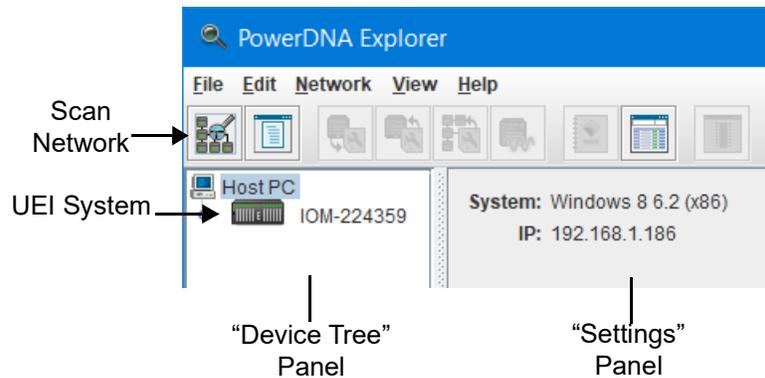

Figure 3-4 Initial Screen of PowerDNA Explorer (DNR-12-1G IOM shown)
STEP 4: In the PowerDNA Explorer toolbar, click the **Scan Network** button (**Figure 3-4**). All discovered UEI systems display to the left in the Device Tree panel. Each UEI system is named IOM-####, where #### is the serial number of the device.
- d. Scan the network for UEI systems in the newly specified range either by selecting **Network » Scan Network** or clicking the **Scan Network** button (see **Figure 3-4** on the previous page).